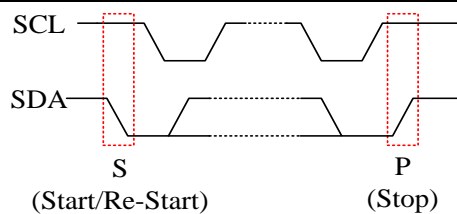

Figure 3-29 Start & Stop Timing
- Start/Re-Start: SDA change from HIGH to LOW while SCL is HIGH, See Figure 3-29;
- Stop: SDA change from LOW to HIGH while SCL is HIGH, see Figure 3-29;